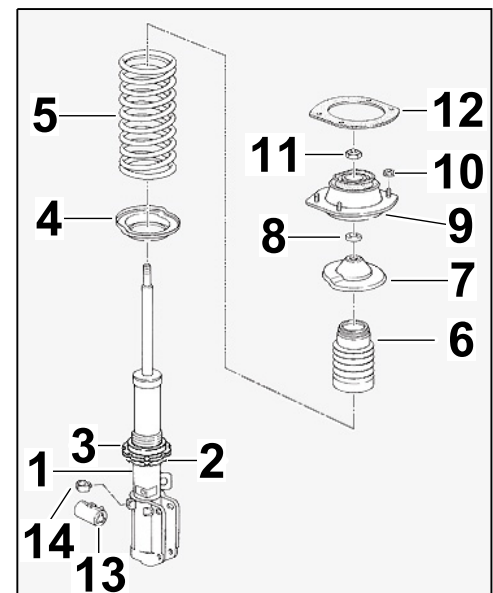

Figure 5
- 2.4 Disassemble faulty spring strut (⇒ Workshop Manual 4085 Disassembling front spring strut) and assemble new spring strut as shown in *Figure 5* (⇒ *Figure 5*).